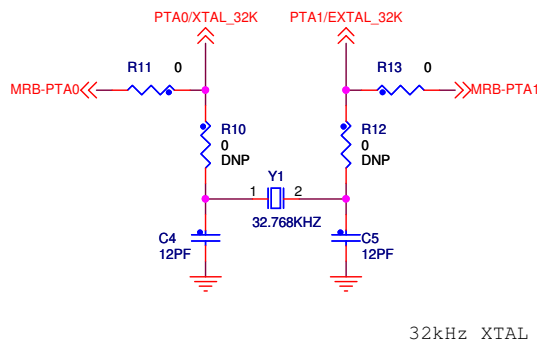

Figure 3-6. 1323x-MRB 32.768 kHz Optional Oscillator Circuit
- Optional 32.768 kHz Crystal Oscillator - Provision is also made for a secondary 32.768 kHz crystal X2 (see Figure 3-6). This oscillator can be used for a low power accurate time base.